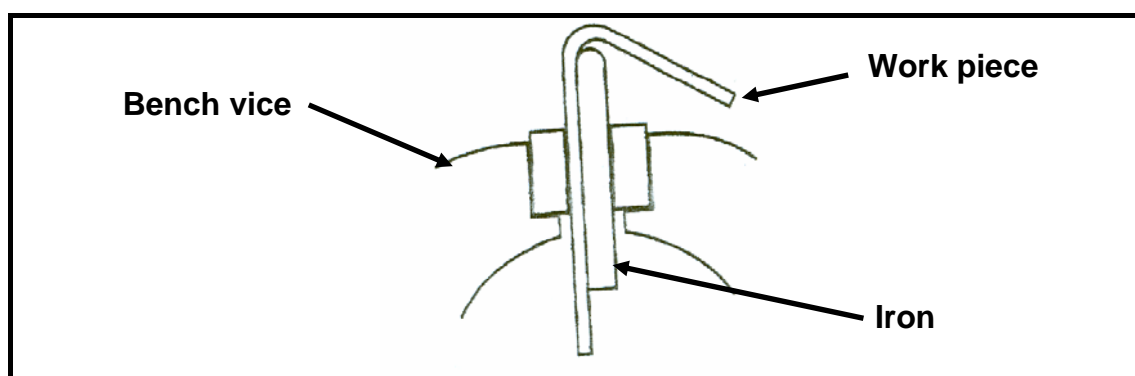

FIGURE 1.4
1.10 What type of test is shown in FIGURE 1.4?